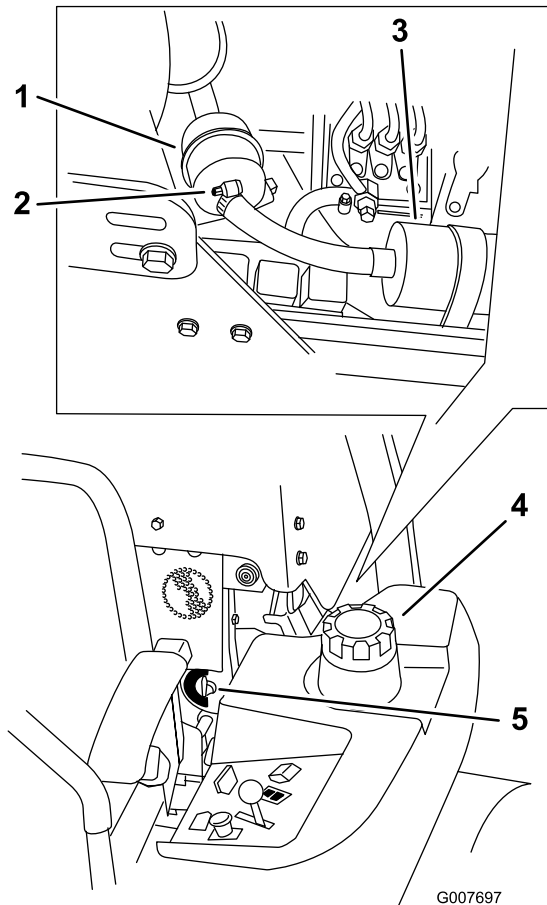

Figure 44
4. Close the fuel shut-off valve(Figure 44).
5. Loosen the two hose clamps and disconnect the fuel lines from the fuel filter (Figure 44).
6. Install a new filter. Connect the fuel lines to the fuel filter and install the two hose clamps (Figure 44).